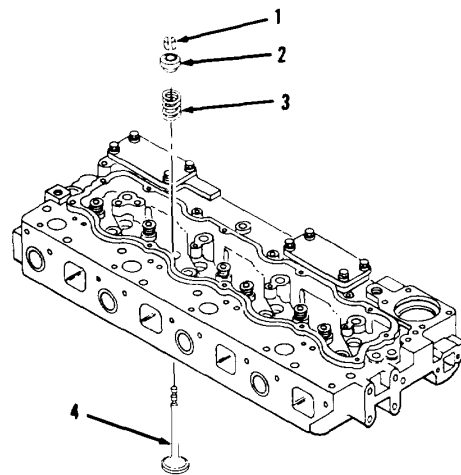

Figure 3-65.
3. Remove two locks (1) and rotocoil assembly (2) from valve (4, Figure 3-65) stem carefully. Do not accidentally release valve spring (3).
4. Release valve spring compressor in valve spring (3) slowly.
5. Remove valve spring (3) and valve (4) from cylinder head.